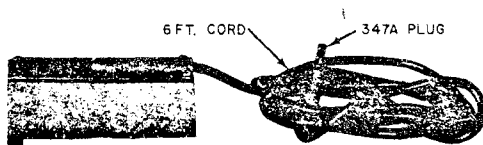

Fig. 1—101B Test Set
2.01 The 101B Test Set (Fig. 1) consists of two balanced windings and a 0.01 microfarad capacitor cast in a small resin block. The low-impedance windings are connected in series opposition to minimize power noise pick-up.